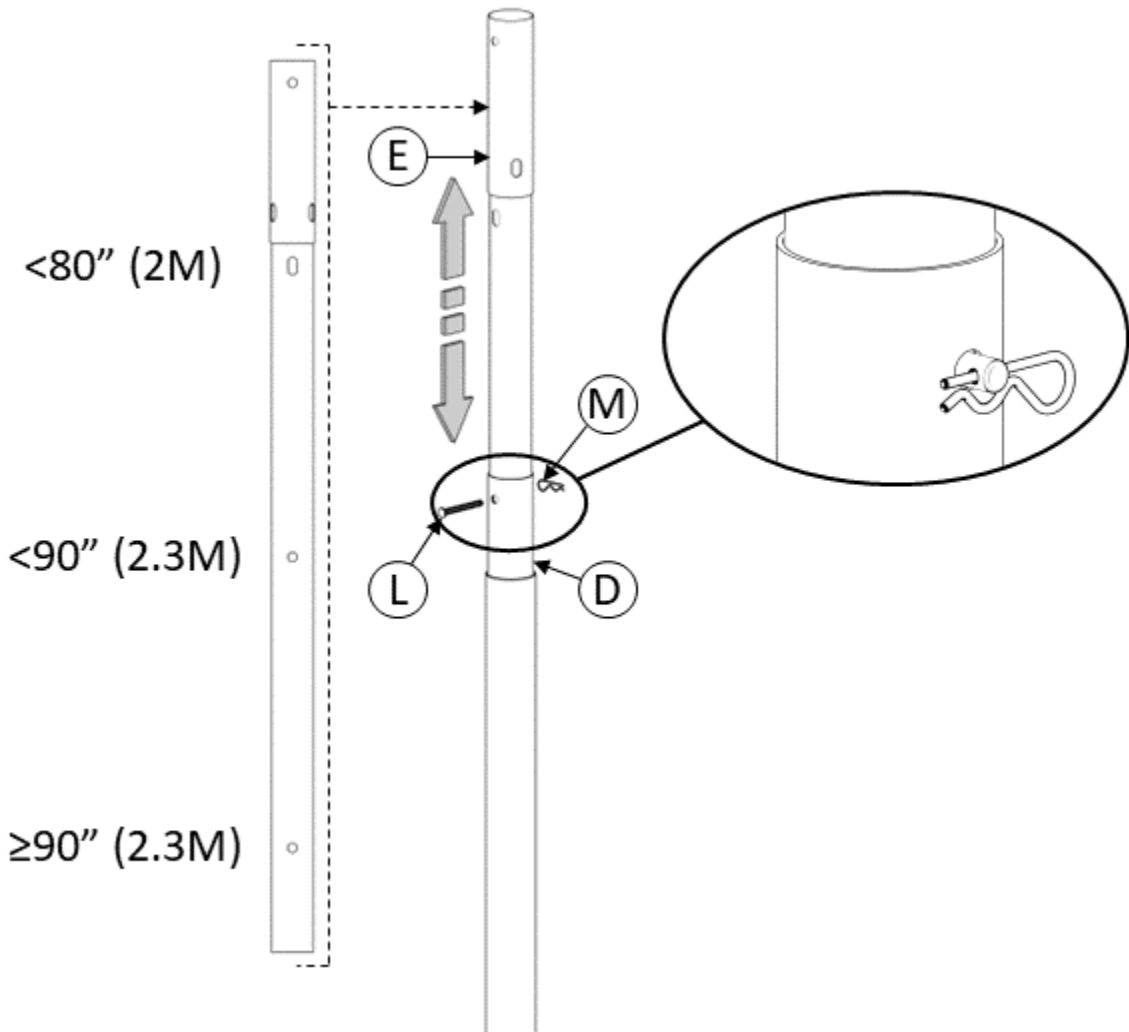

FIGURE 6
6. For bathtub to ceiling distances less than 80" (2M), align the upper adjustment hole in **E** with the hole in **D**. For distances between 80" (2M) and 90" (2.3M), align the center hole in **E** with the hole in **D**. For distances greater than 90" (2.3M), align the lower hole in **E** with the hole in **D**. Insert **L** through **D** and **E**. Insert **M** through **L** to secure as shown in *FIGURE 6*.